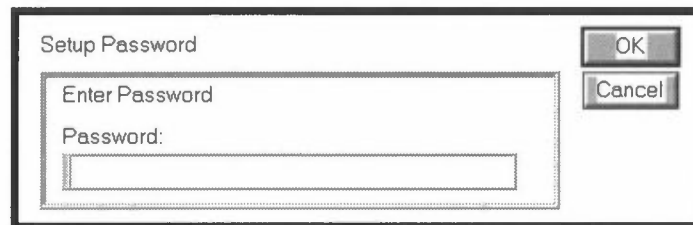

Fig. 4: The Setup Password dialog box.
1. Choose the Setup button in the FILE OPERATIONS group box. The Setup Password dialog box appears, se fig. 4.